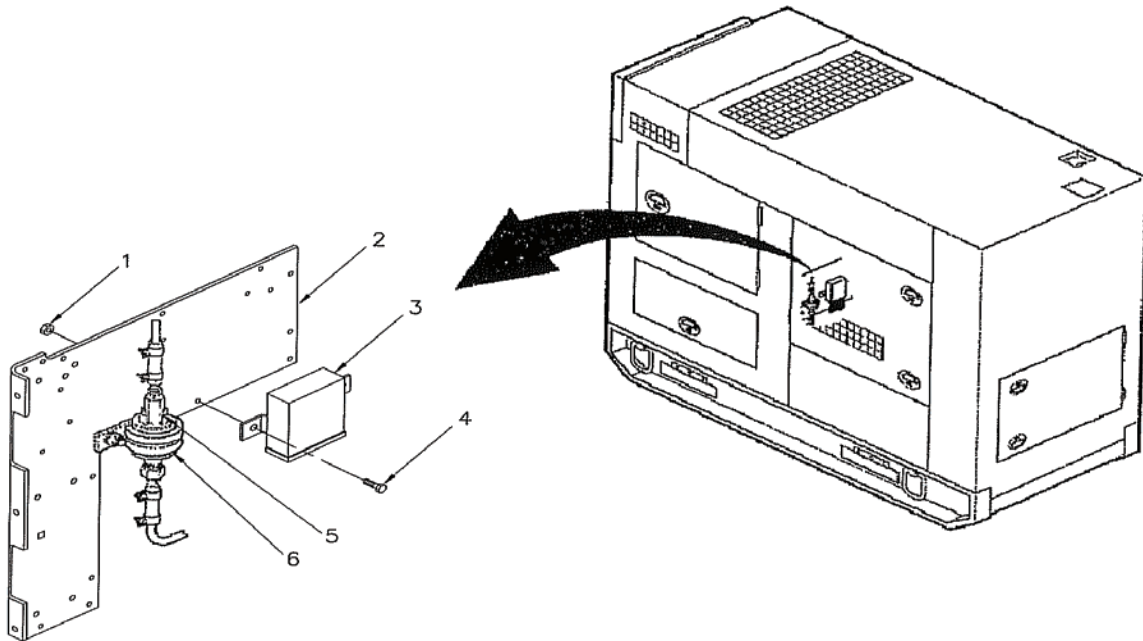

Figure 6-7. Control Unit Assembly.
- l. Install control unit (3, Figure 6-7), with bolt (4) and nut (1) to the engine side of the output box (2).
- m. Install fuel pump (5) with clamp (6) using bolt found on the engine side of the output box and nut found inside of output box.